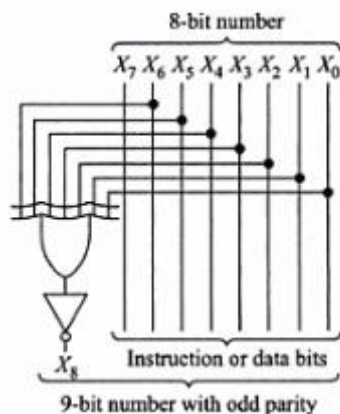

Figure 4.34: Odd parity generator
- In a computer, a binary number may represent an instruction that tells the computer to add, subtract etc. In this case, you sometimes will see an extra bit added to the original binary number to produce a new binary number with even or odd parity (Figure 4.34).